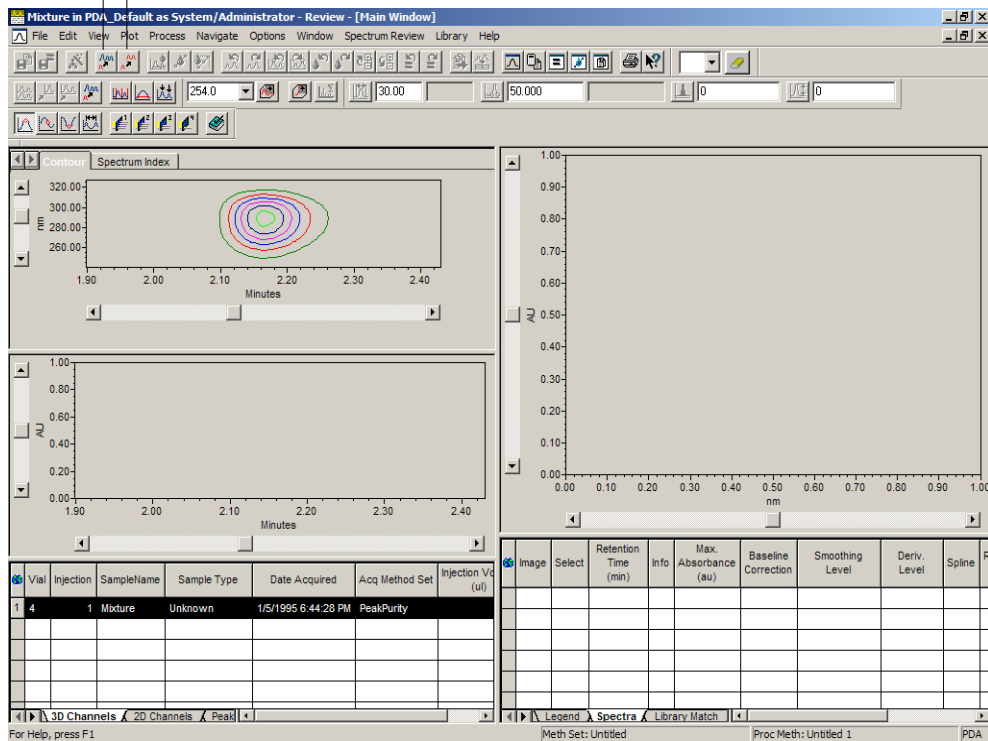

Figure 2-9 Zoomed View of the Contour Plot
Figure 2-9 shows the area after zooming.
- **Full View** – Reverts the plot to its original scale. To activate Full View, click  (Full View) or right-click in the Contour plot and select **Full View** (Figure 2-9).
- **Unzoom** – Returns to the previous zoom when you have zoomed repeatedly. To activate Unzoom, click  (Unzoom) or right-click in the Contour plot and select **Unzoom** (Figure 2-9).